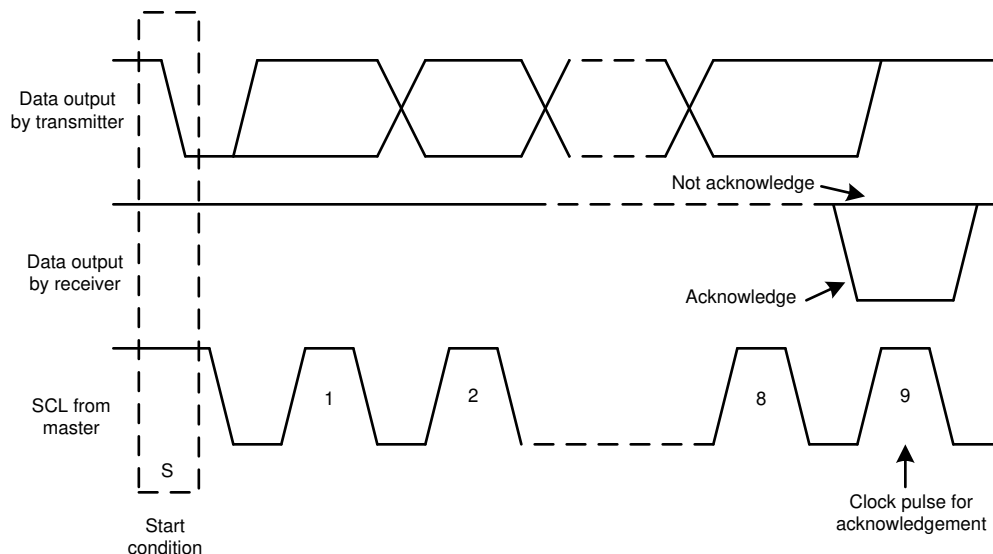
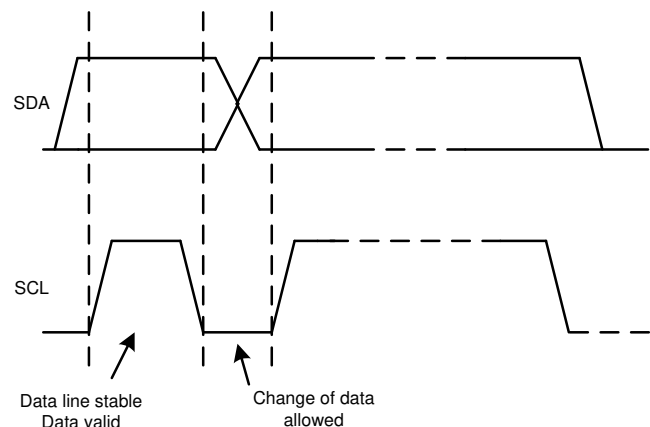

图 50. Acknowledge and Not Acknowledge on the I²C Bus
图 52. Bit Transfer on the I²C Bus
Other than specific timing signals, the I²C interface works with serial bytes. At the end of each byte, a ninth clock cycle generates and detects an acknowledge signal. Acknowledge is when the SDA line is pulled low during the high period of the ninth clock cycle. A not-acknowledge is when the SDA line is left high during the high period of the ninth clock cycle as shown in 图 50.
2. The master then generates the SCL pulses, and transmits the 7-bit address and the read/write direction bit (R/W) on the SDA line. During all transmissions, the master makes sure that data are valid. A valid data condition requires the SDA line to be stable during the entire high period of the clock pulse, as shown in 图 52. All devices recognize the address sent by the master and compare the address to the respective internal fixed address. Only the slave device with a matching address generates an acknowledge by pulling the SDA line low during the entire high period of the 9th SCL cycle, as shown in 图 50. When the master detects this acknowledge, the communication link with a slave has been established.